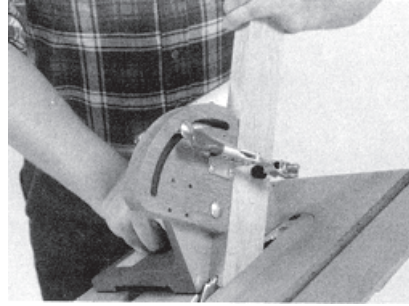

Fig. 8
7. Make first and all similar cuts at the same time. Be sure "X" is always against main bracket (see Fig. 8).